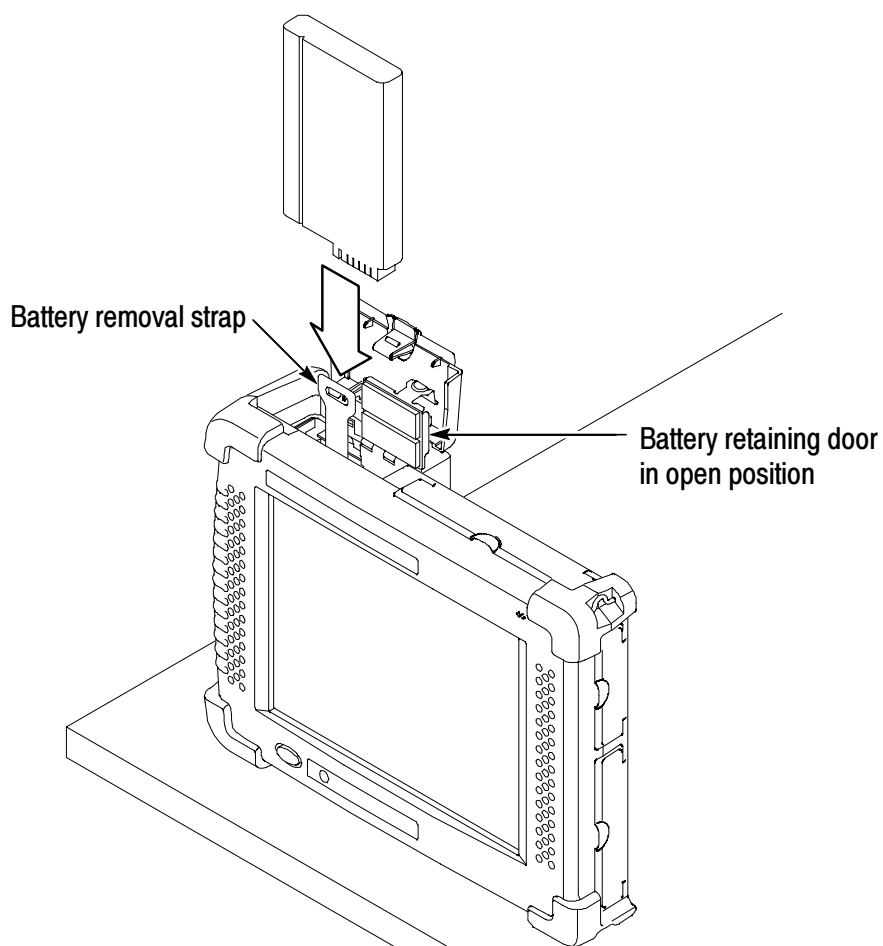

Figure 1-4: Installing a battery
7. Position the battery above the analyzer. The electrical contacts on the bottom of the battery must face in the direction shown in Figure 1-4. Be careful to fold the battery removal strap under the battery during installation, or it will be difficult to remove the battery.